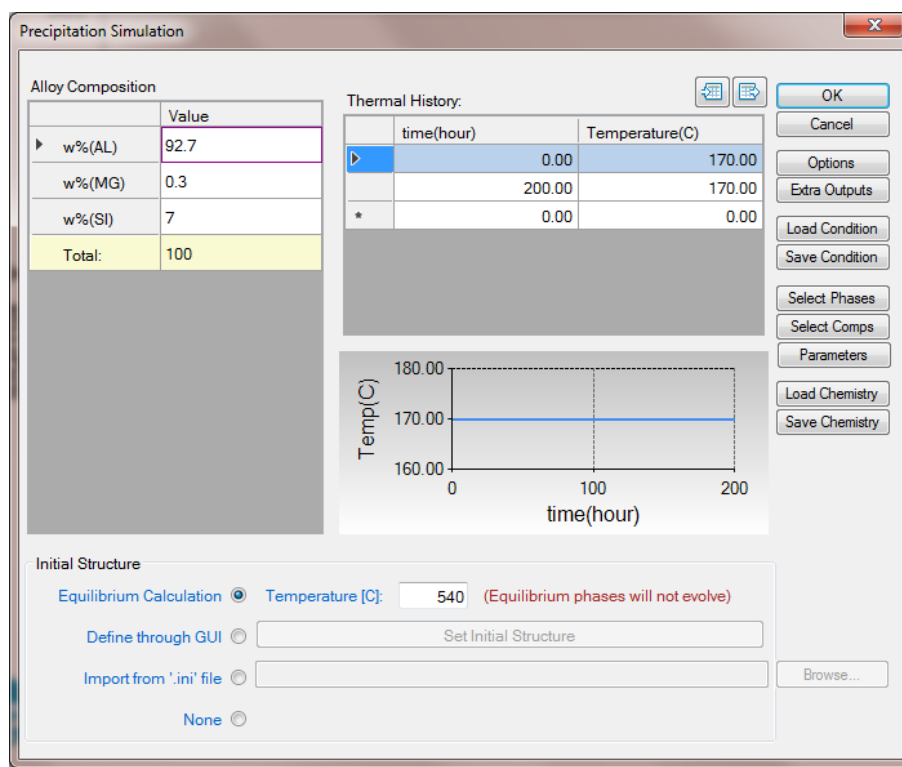

Figure 3.6.1: Setup calculation condition for aluminum alloy 356
- Click on PanPrecipitation->Precipitation Simulation, and set up the calculation condition as shown in Figure 3.6.1. Note that the "Equilibrium Calculation" button under Initial Structure (bottom) should be checked and the solution temperature (540°C in this case) should be given;